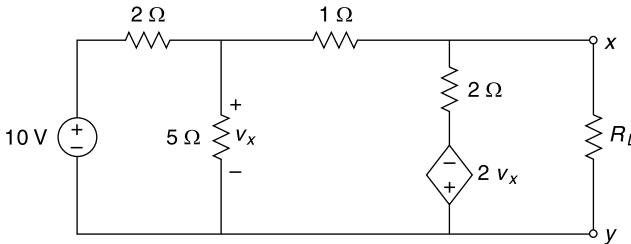

Fig. 4.155 Circuit of Ex. 4.124
4.124 Using maximum power transfer theorem find the value of the load resistance R_L so that the maximum power is transferred across R_L in the circuit shown in Fig. 4.155.